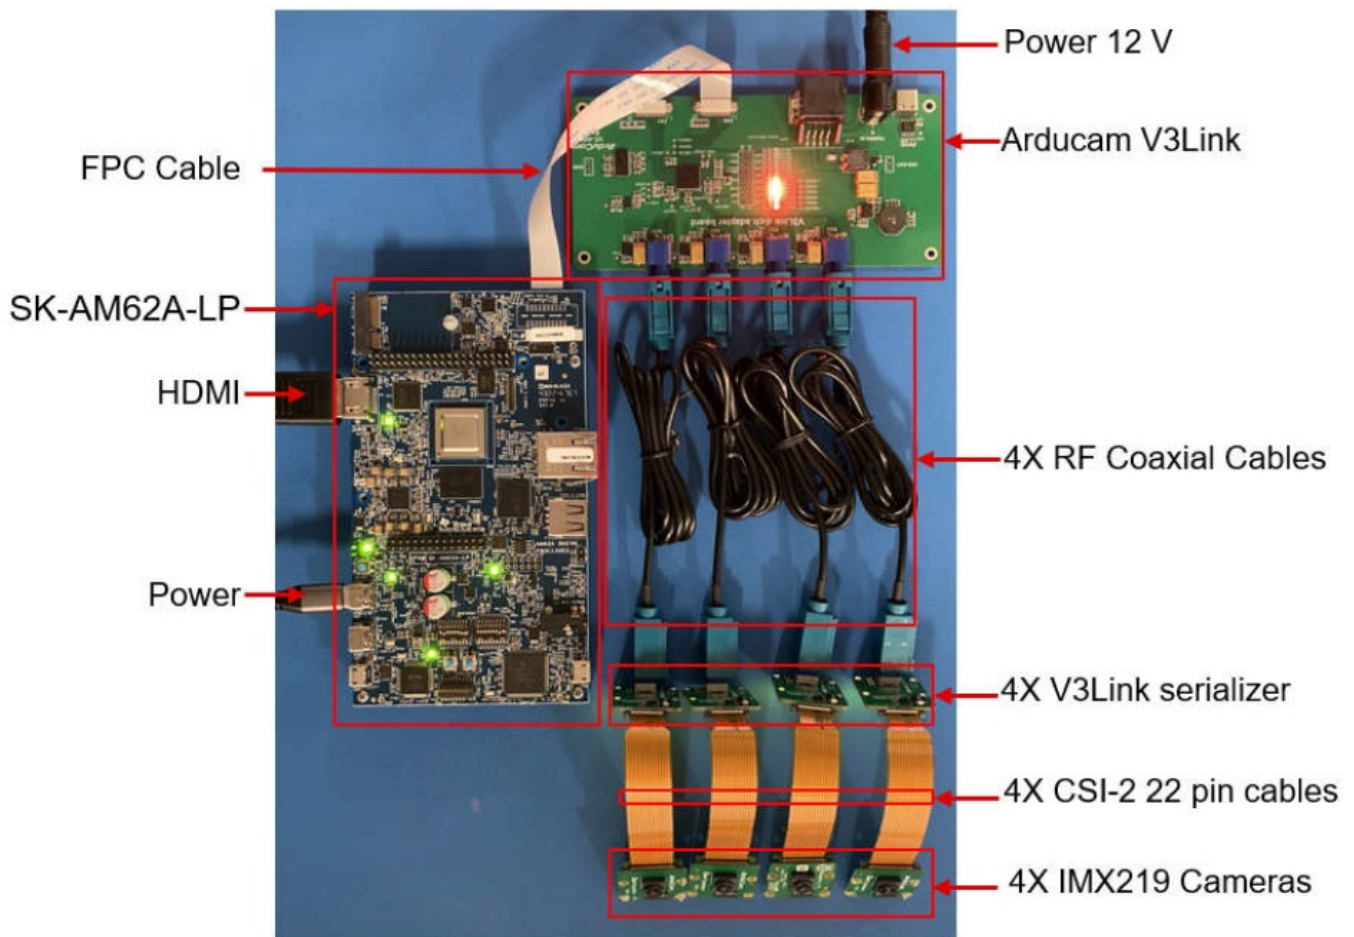

Figure 4-1. V3link Board and 4 Cameras Setup Used in the Reference Design
Figure 4-1 shows the setup used for the reference design in this report. The main components in the setup include:
- Other components not shown in Figure 4-1: micro-SD card, micro-USB cable to access SK-AM62A-LP, and Ethernet for streaming